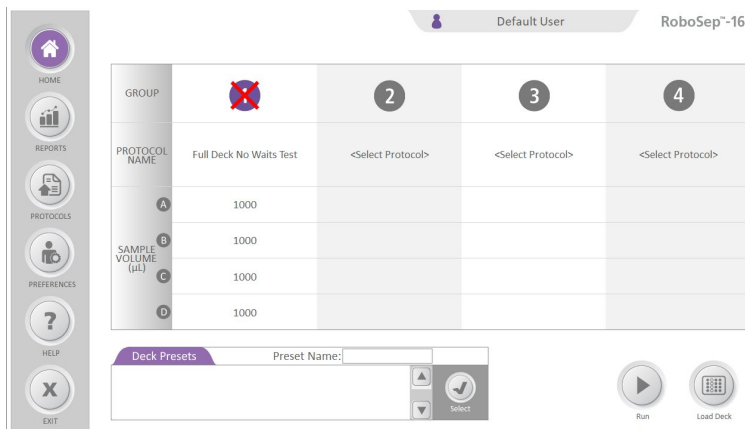

Figure 14. Removing a Protocol Group from the Home Screen
*Note: To remove a protocol from an assigned group (1, 2, 3 or 4), or to remove a row of sample volumes (A, B, C or D) use the cursor to hover over the respective number or letter on the Home screen until an **X** appears. Click on the **X** to remove the protocol from an assigned group or an entire sample volume row. Removal of a protocol group is pictured in Figure 14.*